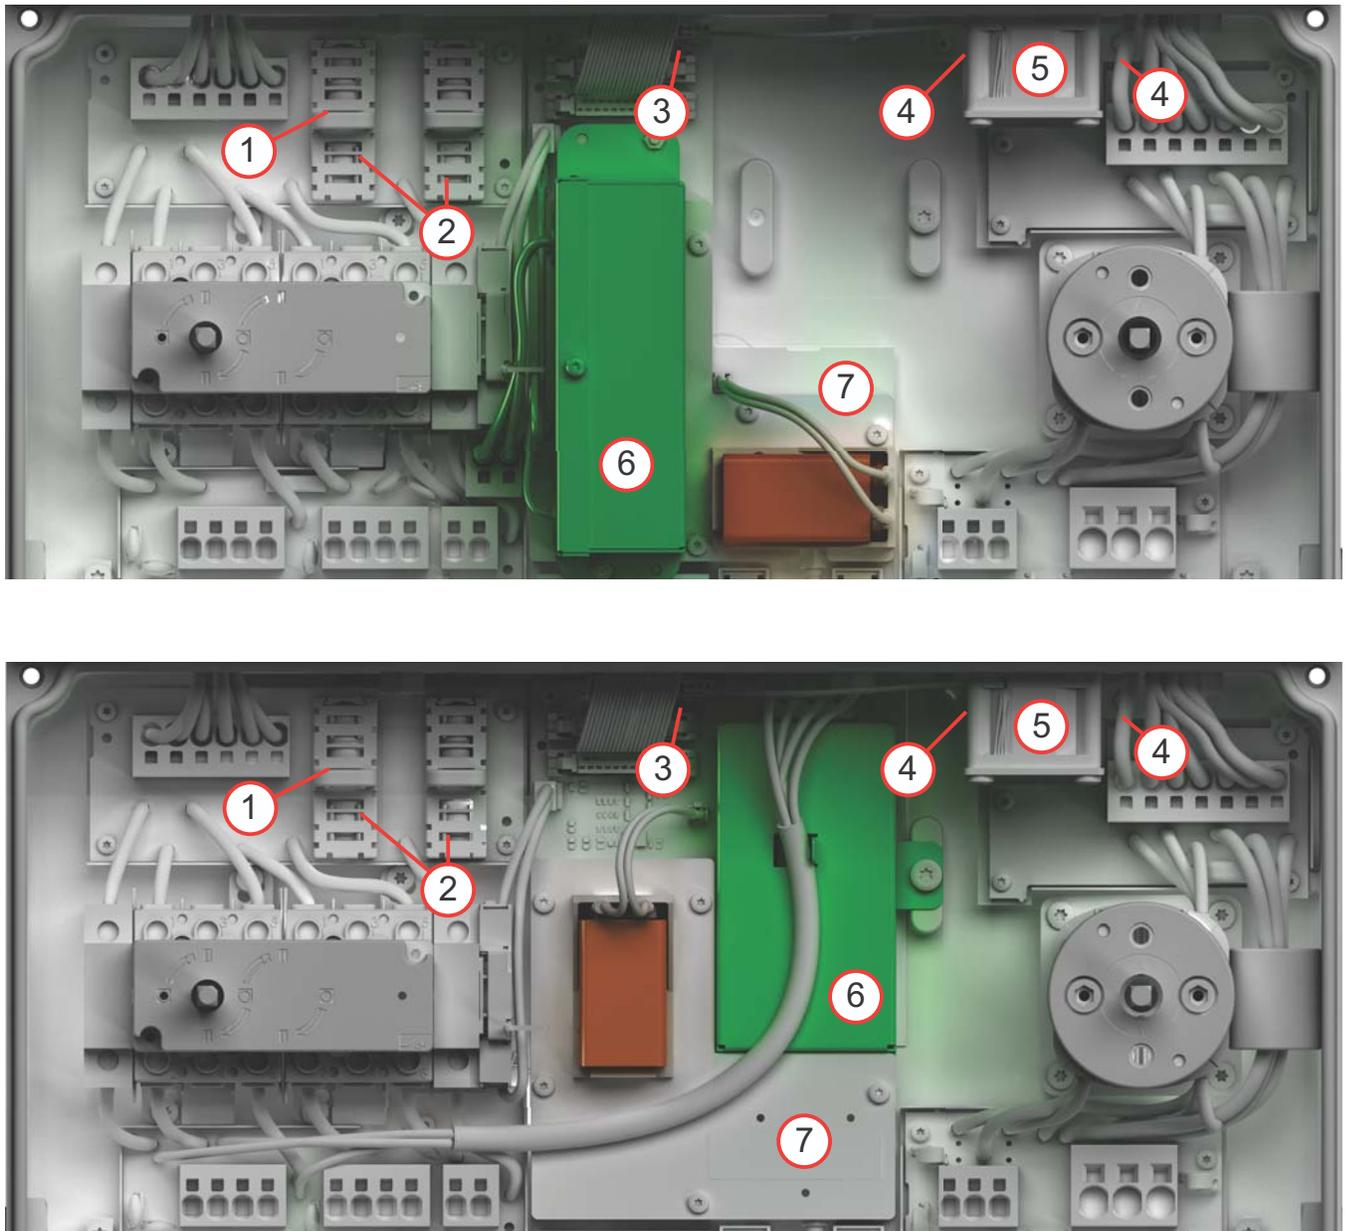

Figure 10-3: Internal components (with separate PLC, top; with integrated PLC, bottom)
This section describes how to remove and replace fuses, fan, and 9V battery inside the SolarCity H6 inverter wiring box. *Figure 10-3* displays these components for units that have a separate PLC Transmitter box and for units with an integrated PLC Transmitter.
The numbered callouts in *Figure 10-3* correspond to the following:
4. Removing the fuse covers (#1 in *Figure 10-3*) by grasping them and pulling them straight out.
4. Unplug the fan power cable from the fan connector (#3 in *Figure 10-3*).
5. Use a Torx head screwdriver to remove the two fan screws (4).
6. Remove the old fan (5) and bracket.
12. Close the wiring box cover by tightening the four (4) screws
5. Remove the six (6) Torx head screws securing the circuit board cover (#6 in *Figure 10-3*) to the inverter.